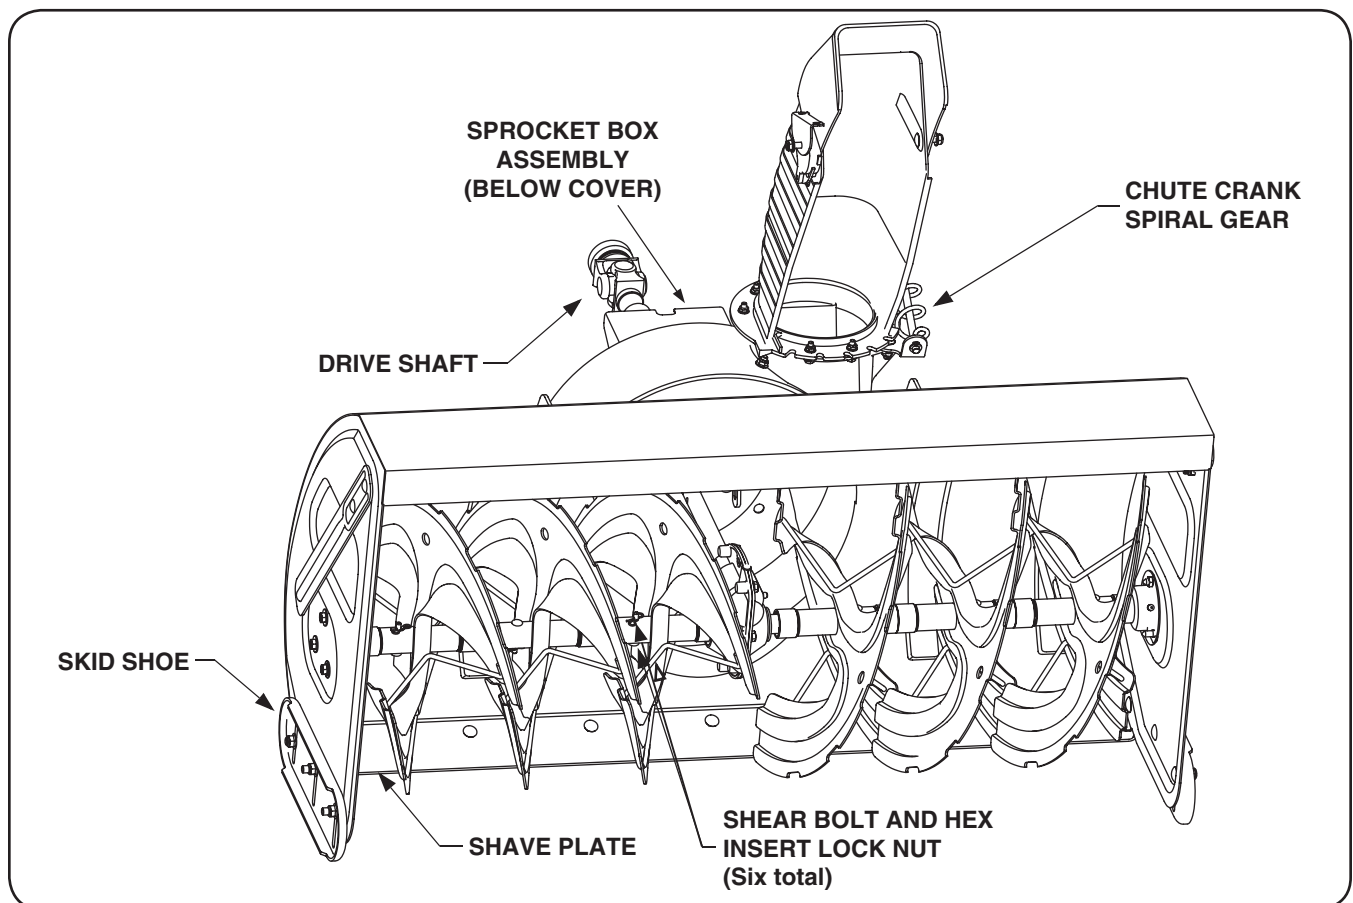

Figure 7-1
The shave plate and skid shoes on the bottom of the snow thrower housing are subject to wear. They should be periodically checked for wear and replaced when necessary. Failure to do so will result in damage to the housing. Refer to Figure 7-1.
1. The augers are secured to the auger shaft with two shear bolts and hex insert lock nuts. Refer to Figure 7-1. If the auger is suddenly jammed by a foreign object or ice chunk, the bolts are designed to shear — minimizing potential damage to the gear boxes.
2. If the augers will not turn, check the bolts to see if they have sheared. Two replacement shear bolts (7) and hex insert lock nuts (8) have been provided with the snow thrower. For future use, order part number 710-0891 for replacement shear bolts and 712-0429 for the lock nuts.